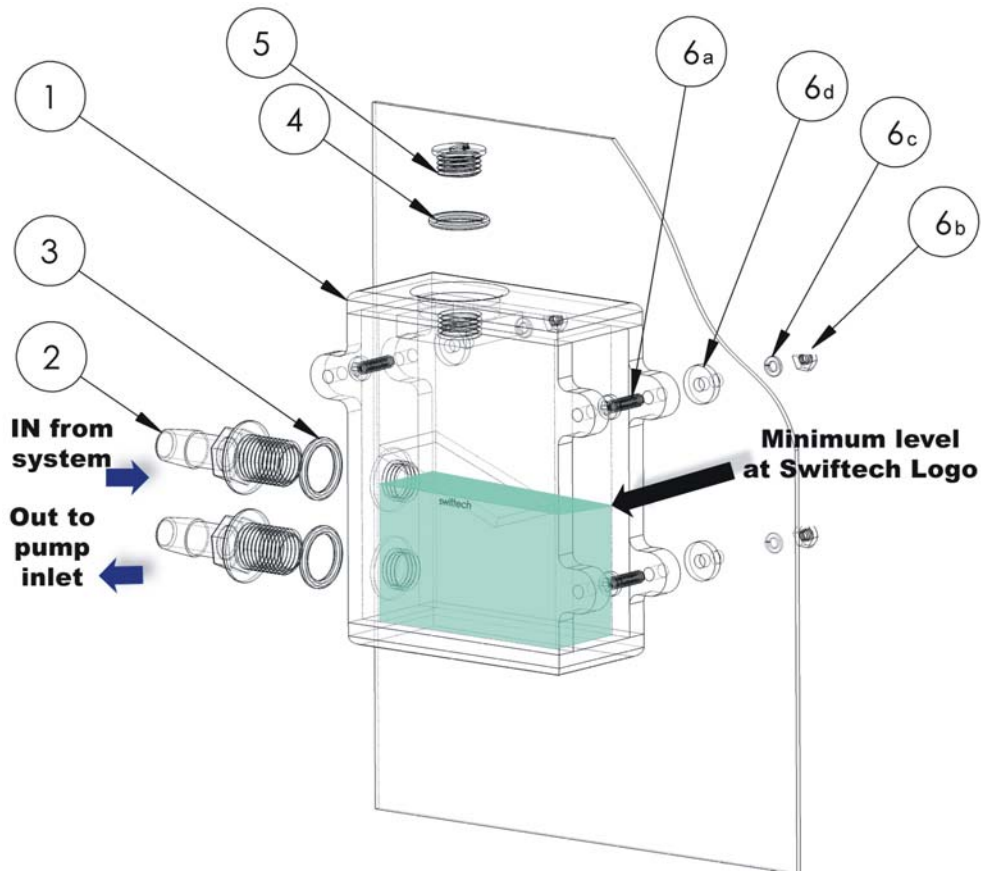

Figure 1
The MCRES-MICRO can be installed in any suitable location meeting its form factor requirements. For filling and bleeding purposes, it is preferable to hold or to install the MCRES-MICRO at the highest point of the liquid cooling loop. However, once filled and hermetically closed, the reservoir can be installed practically anywhere as long as it is kept upright as shown in figure 1. Also, to facilitate the filling and bleeding operations, you might want to wait until the circuit has been filled-up before you fasten the reservoir permanently to the chassis.
- Permanent mount with the provided mounting hardware as shown in figure 1. Three holes will need to be drilled for a permanent mount. Simply use the reservoir as a template to mark the hole locations, and use a 0.150” (4mm) drill bit to drill the holes. Make sure to clean up any metal shavings from the case once you are done.
- The only critical precaution to take when installing the reservoir is to make sure that the discharge line (“Out to pump inlet” in figure 1) is directly connected to the inlet of the pump. In other words, the pump (inlet) should be the first device connected to the reservoir discharge. Using a different routing will make the filling and bleeding of the circuit difficult, and may prevent the pump to prime properly.